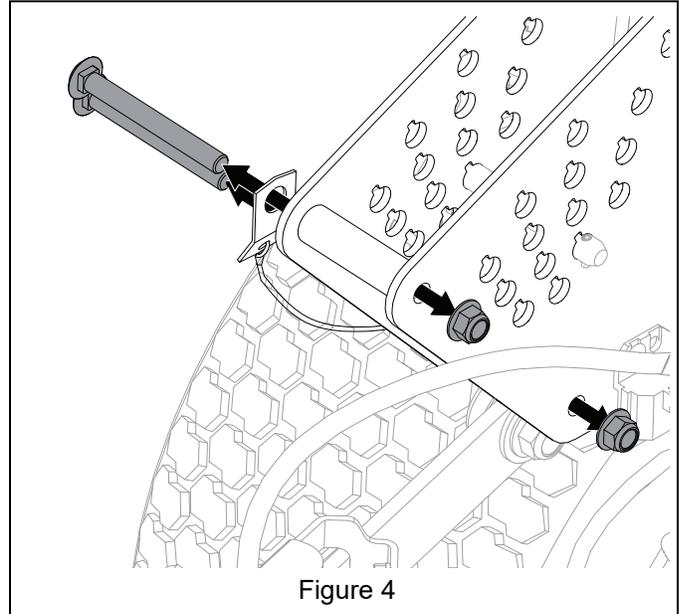

Figure 4
5. *Z-Stance Models Only:* Remove two 3/8" x 3 1/2" round head square neck bolts and two 3/8" center locking flange nuts securing lanyard and spacers to height-of-cut bracket. Retain lanyard, spacers, and nuts for reinstallation and bolts for operation without OCDB kit. See Figure 4.
- *Z-Stance Models (See Figure 9):* Position mounting bracket (item 23) on height-of-cut bracket and secure with two 3/8" x 4" round head square neck bolts (item 24) and parts retained for reinstallation in Figure 4.